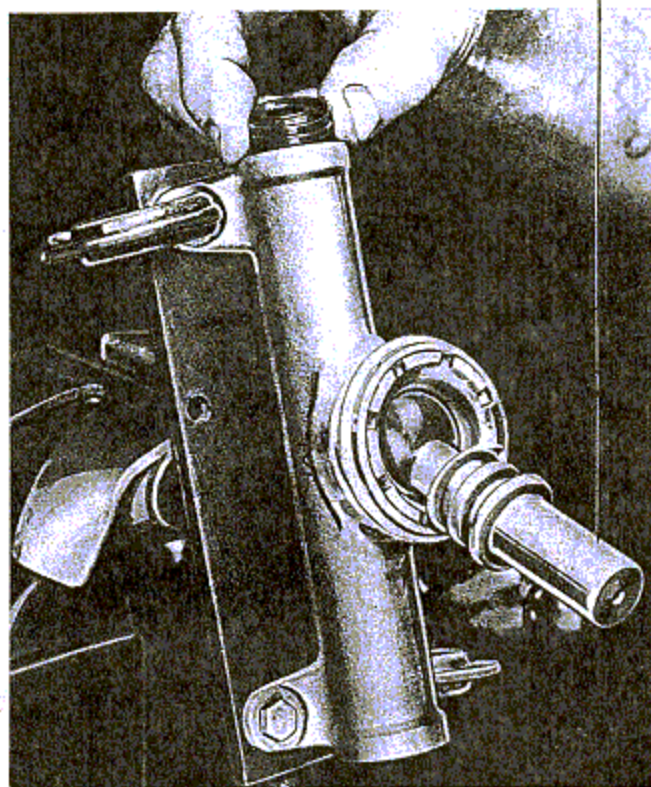

Figure 225—Installing Packing in Hand Pump
1. Attach the pump body to the special table in a vise as illustrated in figure 225 and install the piston in the cylinder.
5. Turn the special table in the vise as illustrated in figure 225. After wetting the piston cups with hydraulic fluid, AAF Specification 3586, and pushing the ball-piston end down, insert the first cup packing. Push this cup down on the piston and insert the second piston cup packing, push this cup down on the first cup and install the packing ring.
10. Place the special tool described in paragraph (3), (b), 13, preceding, in a vise in a vertical position and engage the retainer. Install the retainer by applying an adjustable wrench to the flat sides of the valve end.